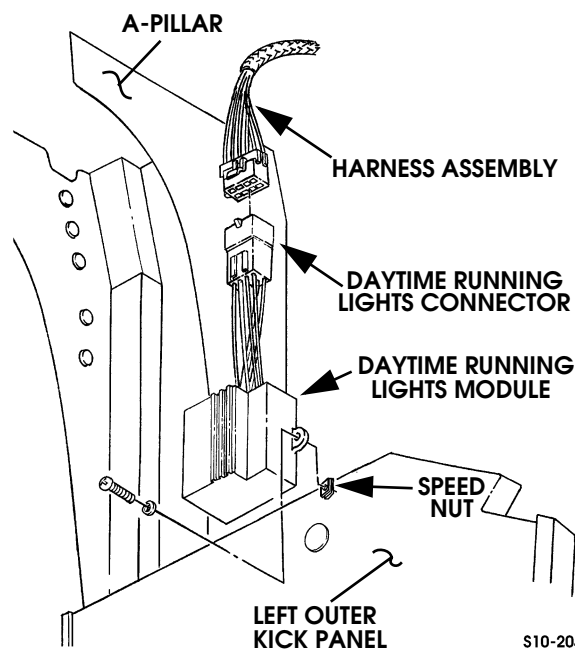

Figure 10-170: Daytime Running Lights Module
1. Disconnect the Daytime Running Lights (DRL) connector from the harness assembly (Figure 10-170).
1. Secure DRL module to kick panel with two screws, washers, and nuts (Figure 10-170).